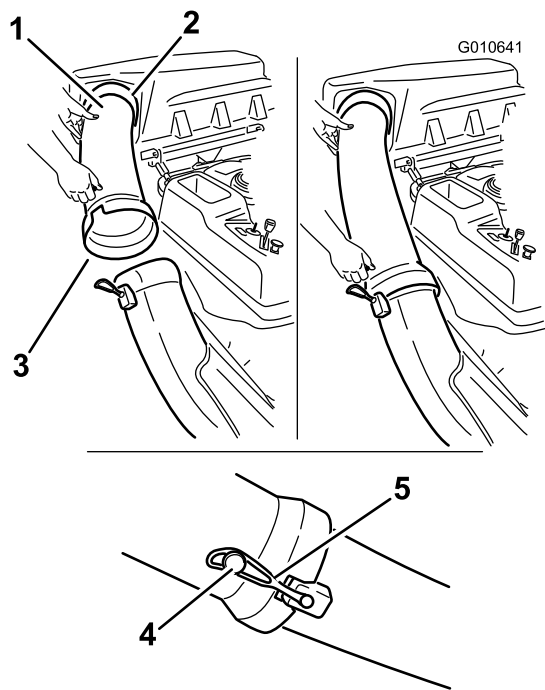

Figure 23
1. Slide the curved end of the discharge tube into the opening in the bagger top (Figure 23).
- Slide the flared end of the discharge tube over the end of the chute. Move the rubber retaining strap on the chute snaps over the peg on the discharge tube to secure it (Figure 23).